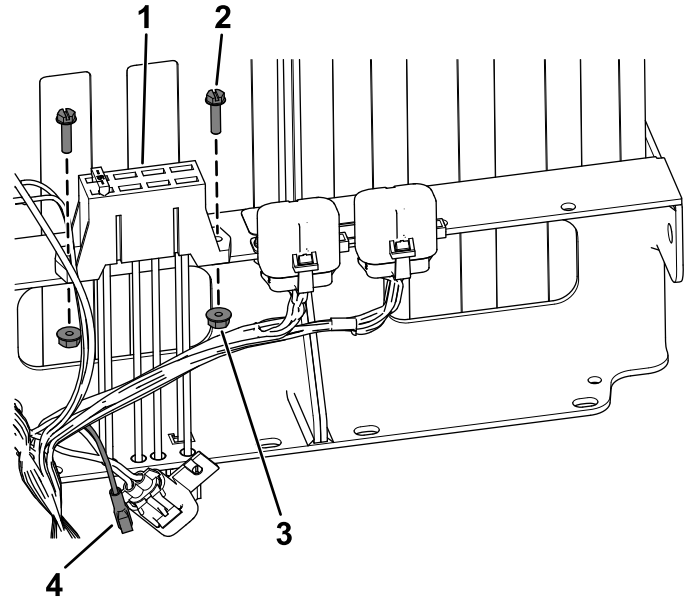

Figure 18
- For 2019 and after machines, secure the new fuse block using the 2 hex-washer head screws (#10 x 3/4 inch) and 2 serrated nuts (#10) as shown in Figure 18.
- For 2019 and after machines, connect the female connector on the harness to the new fuse block (Figure 18).